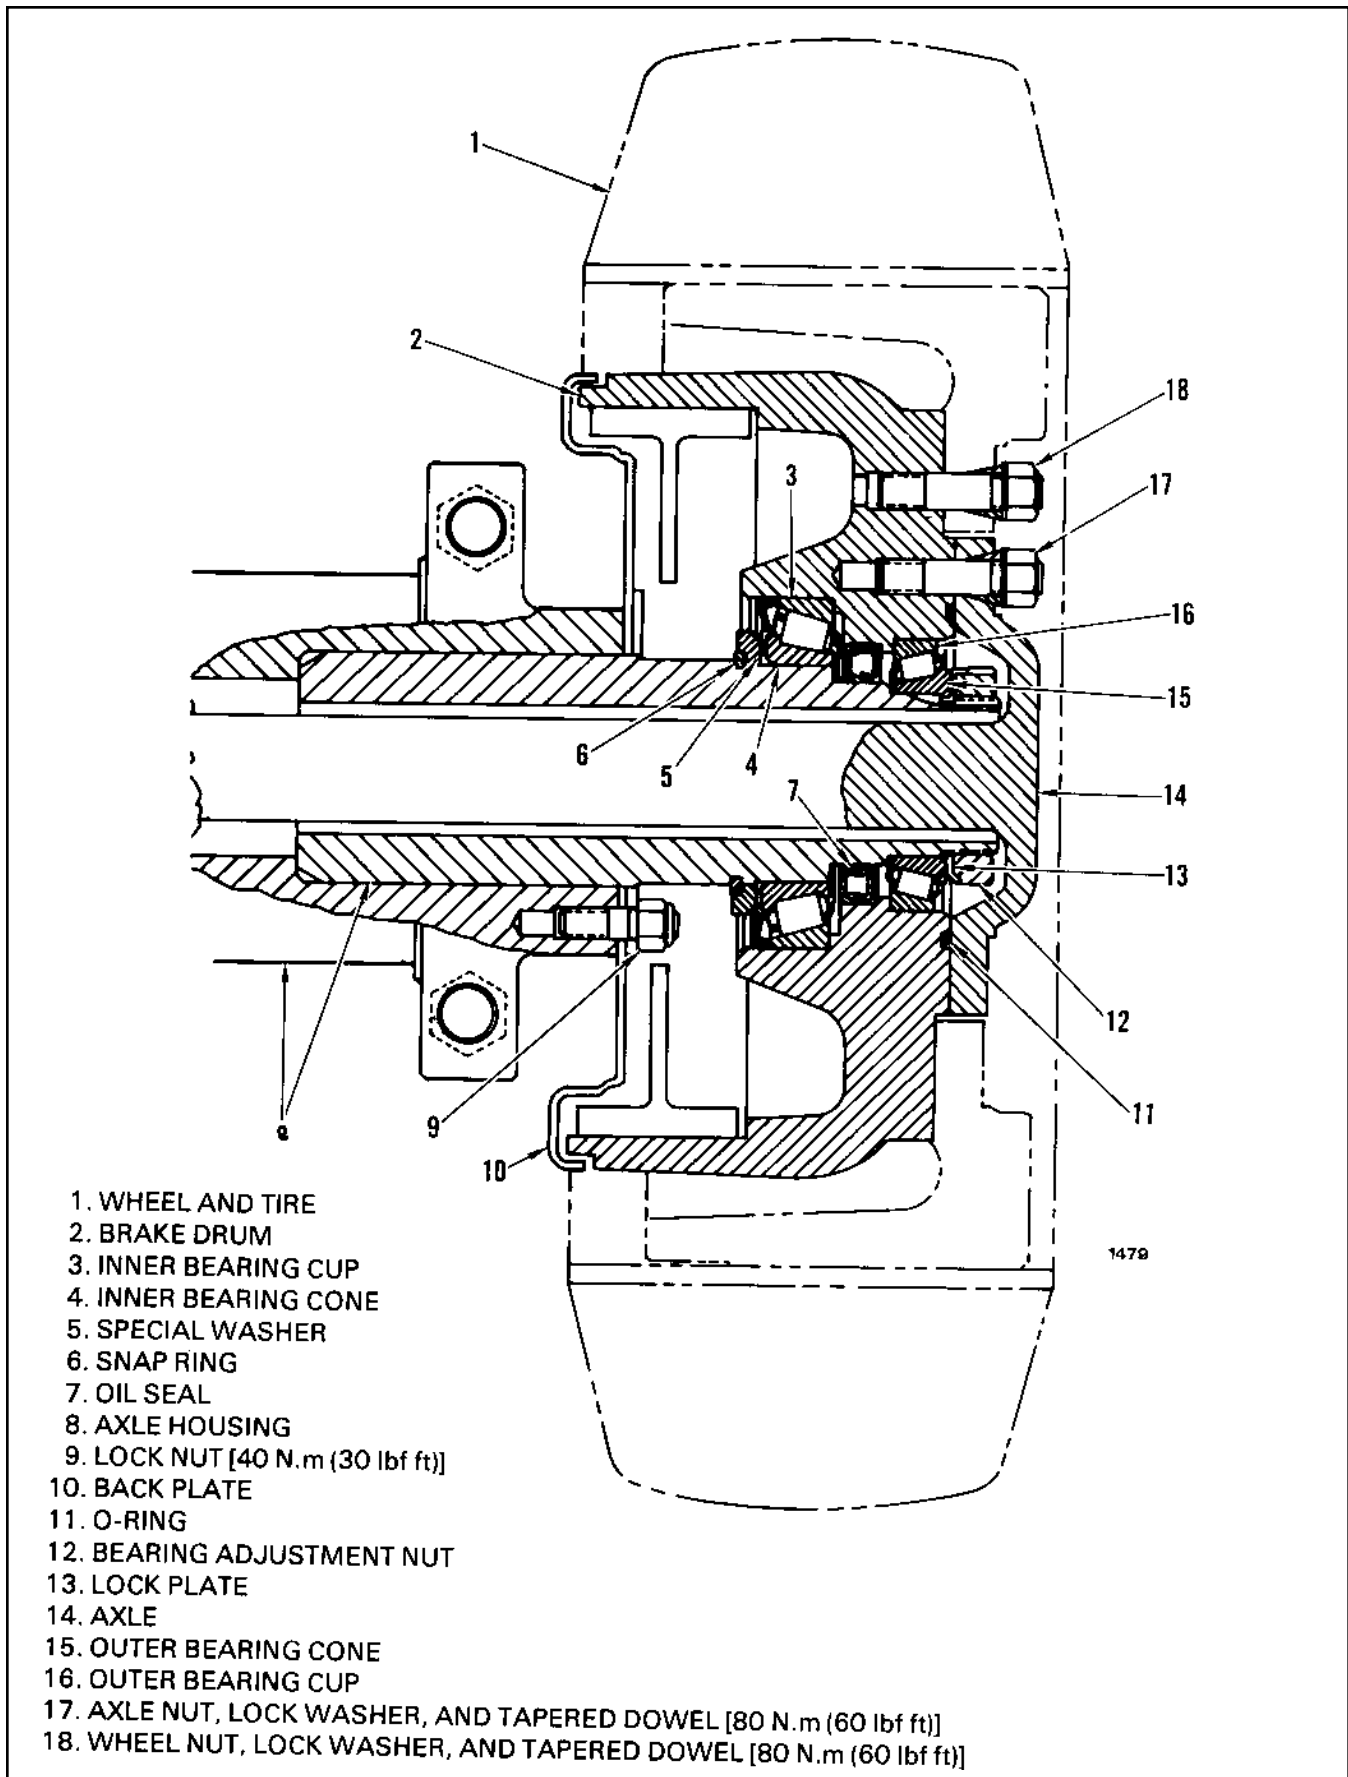

FIGURE 1. E20-30BS DRIVE WHEEL AND AXLE ARRANGEMENT
The traction motor turns a speed reducer that is attached to the pinion shaft of the differential. The hypoid ring gear and pinion part of the differential assembly is also a one-stage speed reducer. The ring gear transfers power through the differential assembly to the axles. The differential assembly permits the axles to rotate at different speeds when the lift truck is turned. The brake drums and drive wheels are connected to the hubs. Different tire clearances are necessary for cushion tires (BS) and pneumatic tires (BH). The outer axles and hubs are different for the two series of lift trucks, but the operation is the same. See Figures 1 and 2.
REMOVAL OF THE DRIVE AXLE (E20-30BS) (See Figure 1)
A. Install a new oil seal (Item 7, Figure 1) and lubricate the inner bearing with grease. Install seal with spring toward outside of truck.
C. Put the lift truck on blocks. Put the blocks under the frame so that the drive assembly can be removed. Do not remove the wheels. See Figure 1.